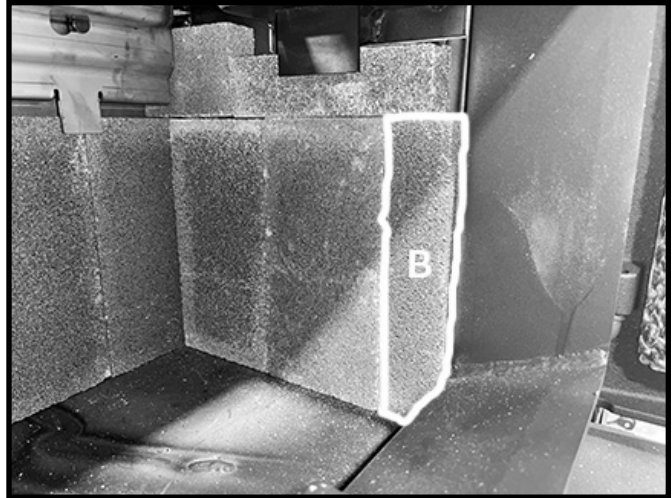

Figure 22. Front side wall firebricks in position.
6. Place a "B" firebrick under the "E" firebrick and against the side wall of the firebox Figure 22.